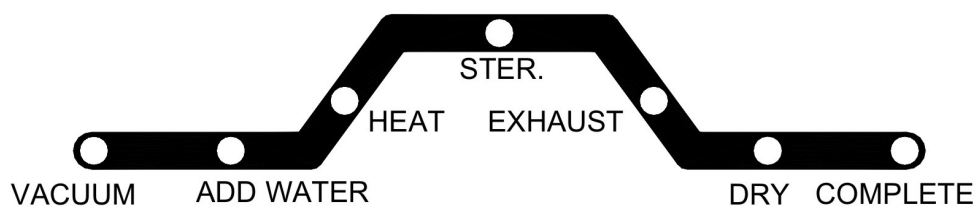

Figure 21
D. Press the START Button  and the sterilizer will automatically run through the selected program. The current progress of the sterilization cycle is indicated by the illuminated LED on the Process Status Indicator. (Figure 21)